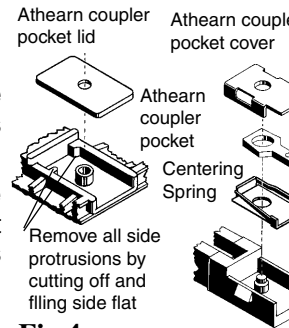
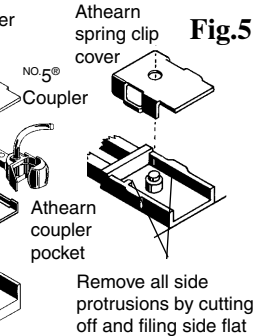

Fig.4
Fig.5
2. If any internal side protrusions are present in the coupler pocket, see Fig.4 and Fig.5, remove them by cutting and/or filing until surface of sides are smooth and flat.